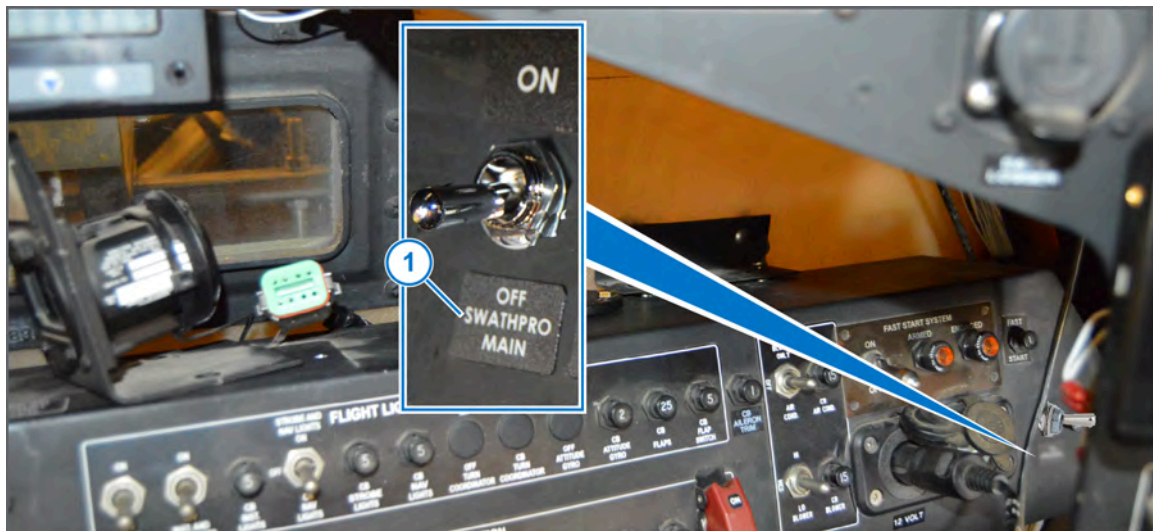

Figure 26: Label Location
12. Install the **SWATHPRO MAIN** label (Figure 26, Item 1) below the 50A circuit breaker.
See Figure 26